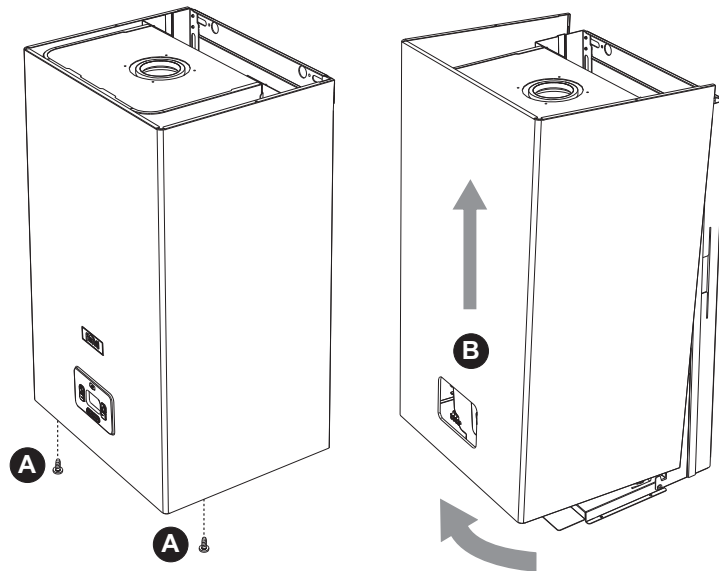

fig. 28- Front panel opening
1. Undo the screws **A** (see fig. 28).